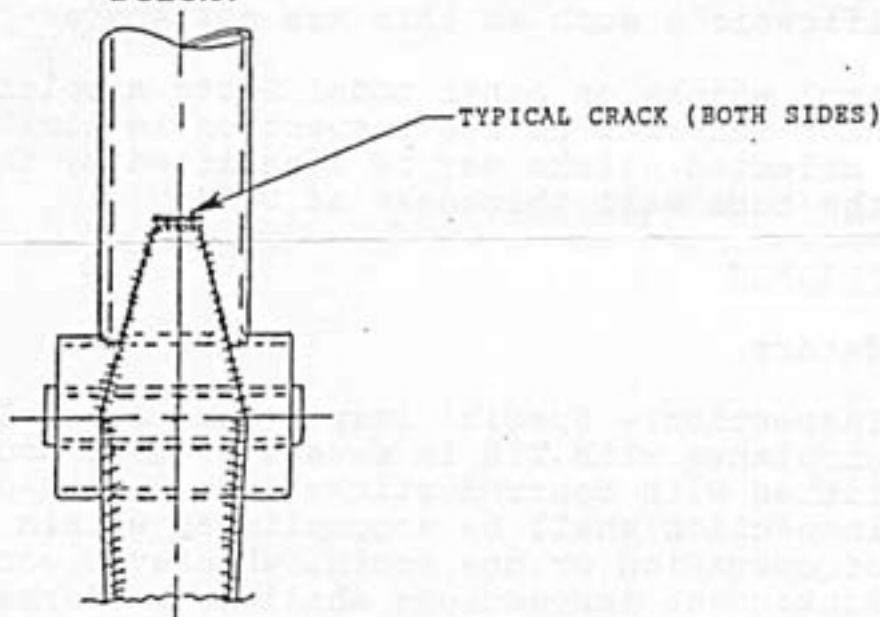

FIGURE 1 TYPICAL LOCATION OF CRACKS
- (1) Remove the control sticks from the airplane.
- (2) If the structure of the control stick has been modified then it must be replaced.
- (3) Remove the paint and primer in the area around the pivot bearing and welds with a chemical stripper.
- (4) Check for cracks using a dye penetrant method. Refer to Figure 1 for typical location of cracks.
- (5) If any cracks are found replace the control stick.
- (6) If no cracks are found prime and paint the stripped area before re-installing.
- (1) Inspect the area around the pivot bearing and welds (see Figure 1) using a 10X magnifying glass.
- (2) If any cracks are found replace the control stick.